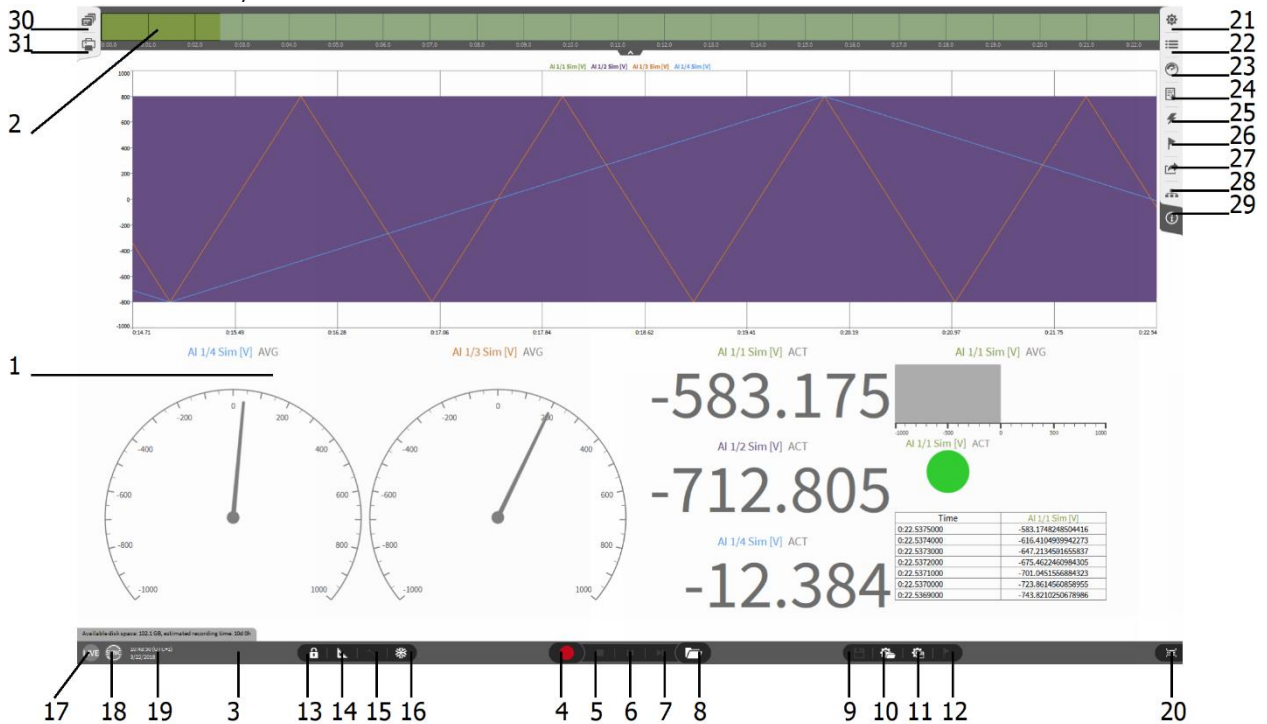
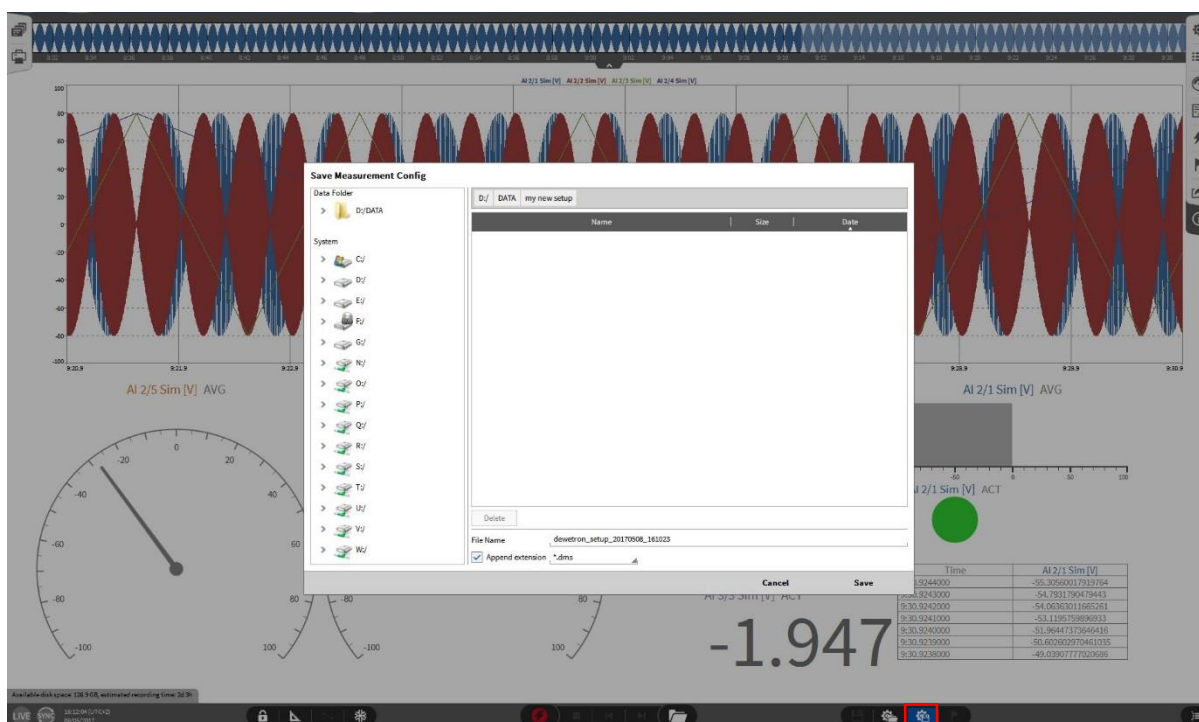
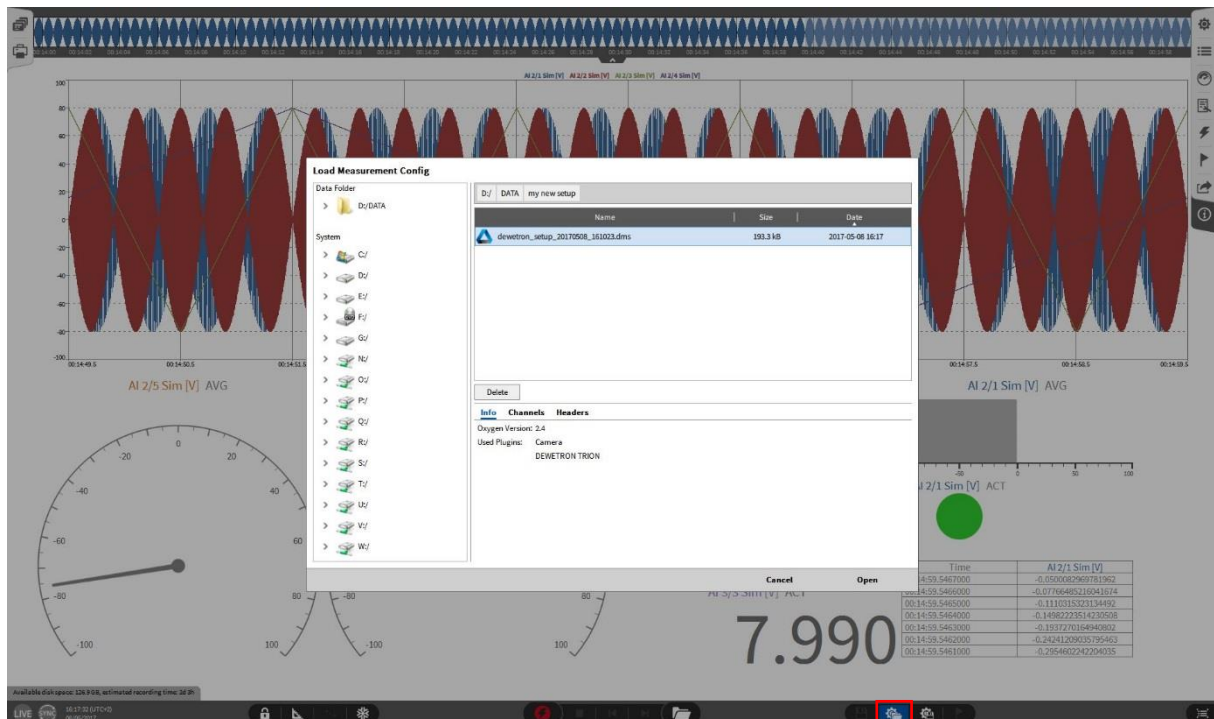
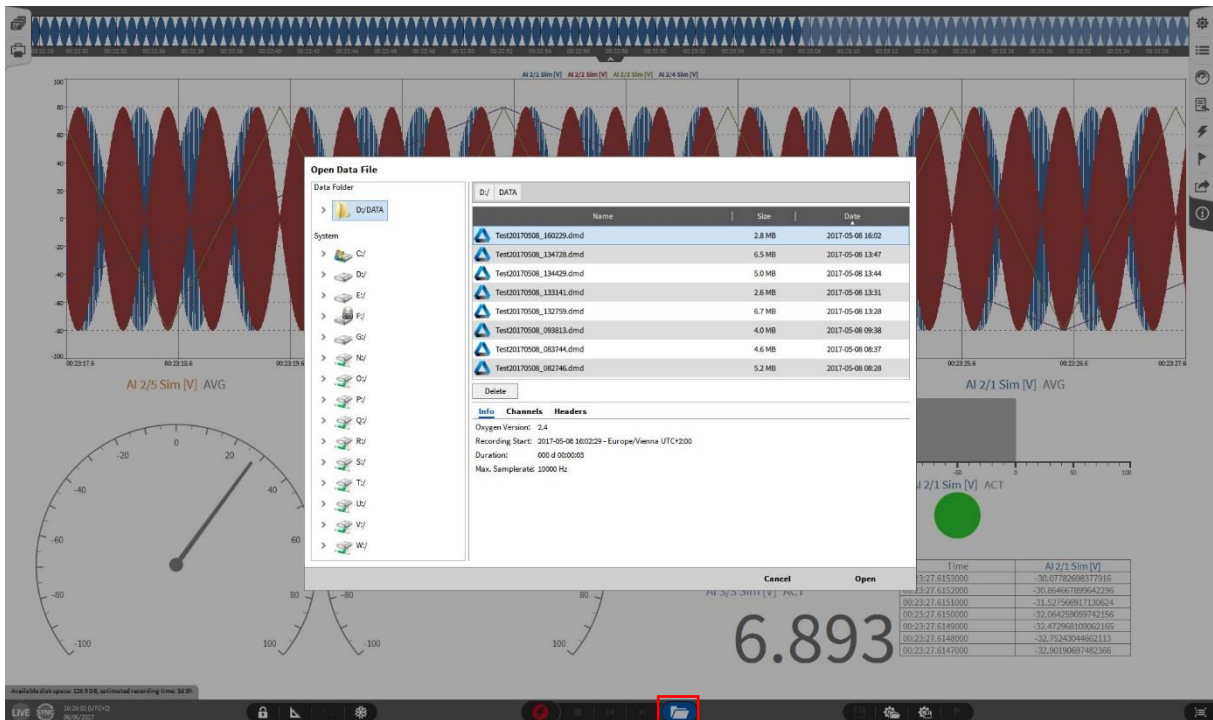

Figure 2-1: Software Overview
Figure 2-2: Saving a Setup file
Figure 2-3: Loading a Setup file
Figure 2-5: Opening a Data file
OXYGEN has three different Operating Modes: *LIVE*, *REC* and *PLAY*. The actual software mode is displayed in the Action bar (see ⑰ in Figure 2-1). The properties of the different modes are explained in the following section:
- Touch or left click the gear and diskette icon in the Action Bar (see Figure 2-2 or ⑰ in Figure 2-1)
- Touch or left click the gear and folder icon along the bottom tool bar (see Figure 2-3 or ⑩ in Figure 2-1)
- Touch or left click the folder icon in the Action bar (see Figure 2-5 or ⑧ in Figure 2-1)